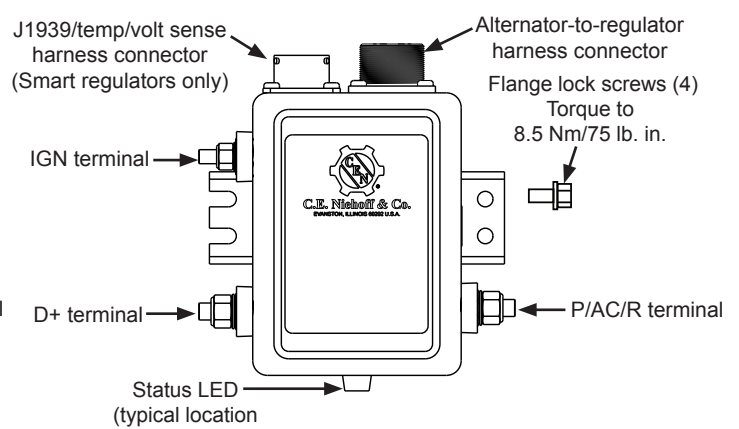

Figure 10: Typical Smart Voltage Regulator Connections
5. If using a J1939/temperature/voltage sense harness, plug harness into J1939 receptacle on regulator. See Figure 10 for receptacle location. Reference installation instructions included with harness for more information. Harness sold separately².